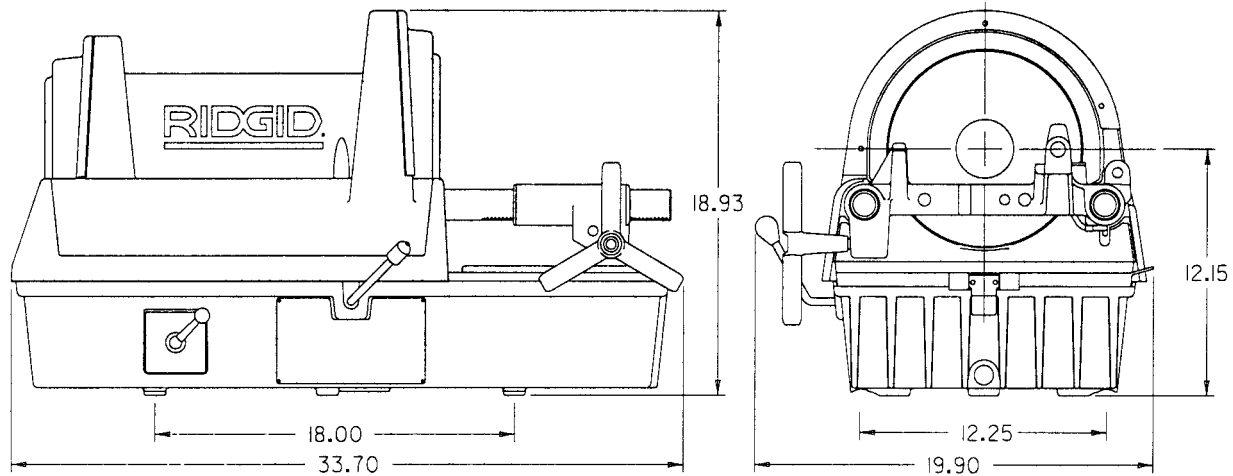

Figure 2 – Machine Dimensions
1. If a stand is not used, the machine should be mounted to a stable bench. To mount the unit on a bench, use four (4) $\frac{5}{16}$ " bolts in holes provided at each corner of machine base. Base dimensions are shown in *Figure 2*.